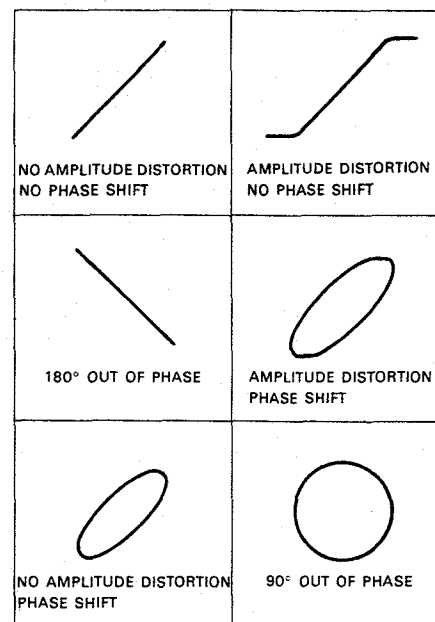
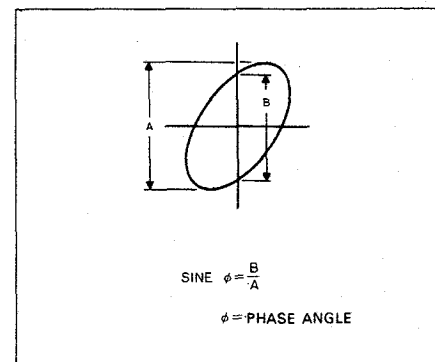

Fig. 32 Typical phase measurement oscilloscope displays
Fig. 33 Phase shift calculation
7. Some typical results are shown in Fig. 32. If the two signals are in phase, the oscilloscope trace is a straight diagonal line. If the vertical and horizontal gain are properly adjusted, this line is at 45° angle. A 90° phase shift produces a circular oscilloscope pattern. Phase shift of less (or more) the 90° produces an elliptical Lissajous pattern. The amount of phase shift can be calculated from the oscilloscope traces as shown in Fig. 33.